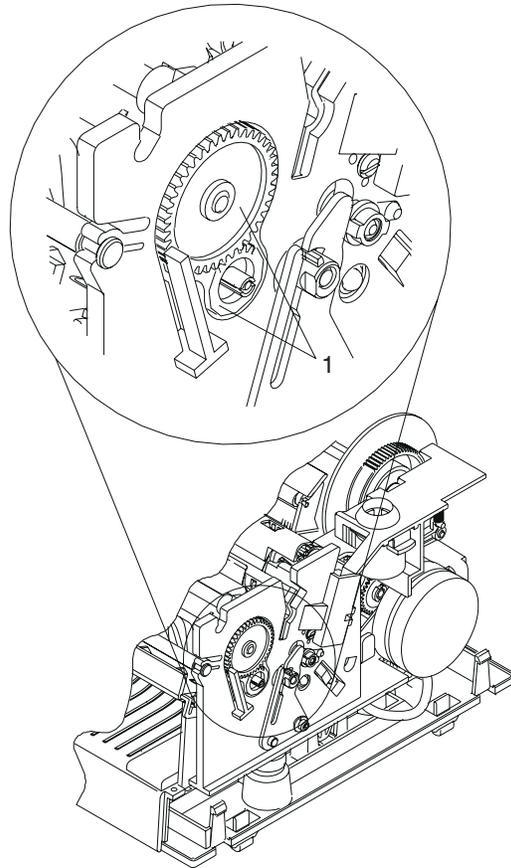

Figure 6-30. Printer Ribbon Drive Gears
- Inspect the printer drive gears (1) for missing teeth. See Figure 6-30.
Exchange the ribbon drive gear, the large gear in Figure 6-30.
Exchange the ribbon drive clutch, the small gear in Figure 6-30.